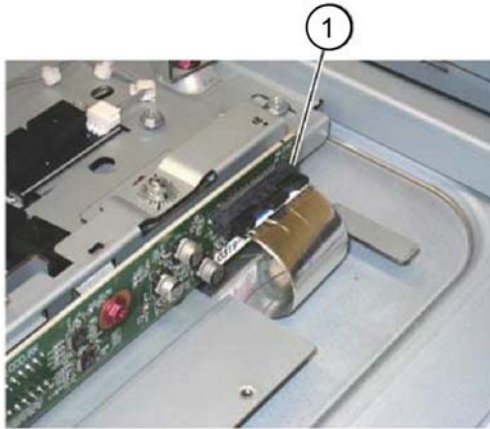

Figure 2 FFC CCD ribbon cable
4. Release the hooks, then disconnect the FFC CCD ribbon cable, Figure 2.